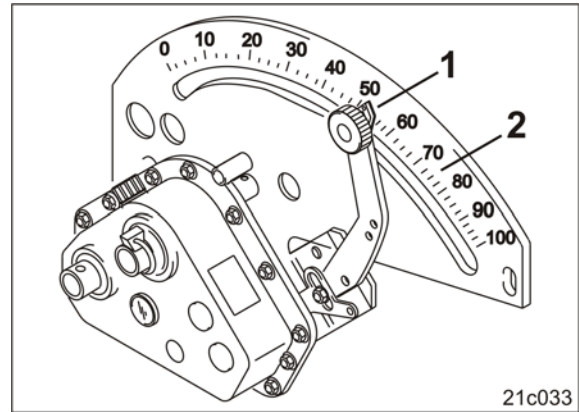

Fig. 197
6. Undo the locking knob (Fig. 197/1).
7. Set the indicator (Fig. 197/2) of the gearbox lever from below to the gearbox setting value "50".